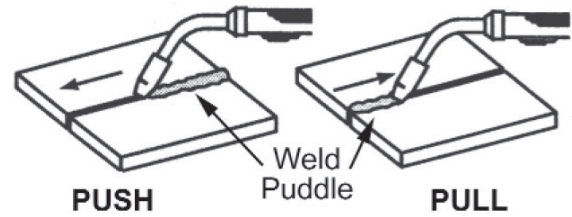

Figure 10. Travel Direction
1. TRAVEL DIRECTION is the direction the gun is moved along the weld joint in relation to the weld puddle. The gun is either PUSHED (see Figure 10) into the weld puddle or PULLED away from the weld puddle.